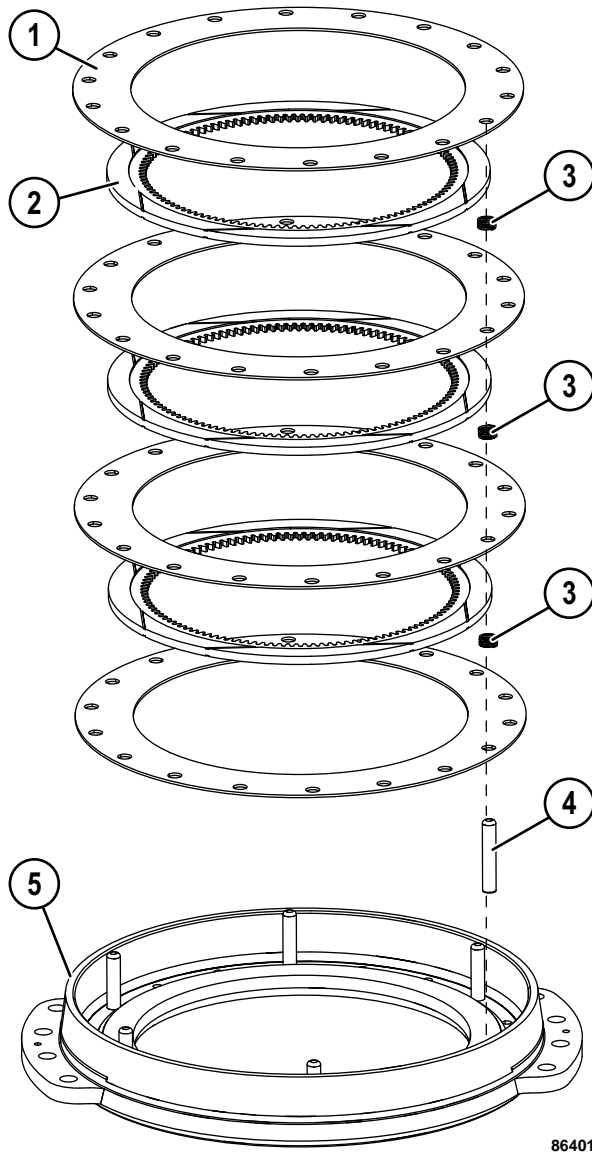

FIGURE 50-64. PARKING BRAKE DISASSEMBLY & ASSEMBLY
7. Remove four separator discs (1, Figure 50-64), three friction discs (2), and compression springs (3) from brake pack housing (5).